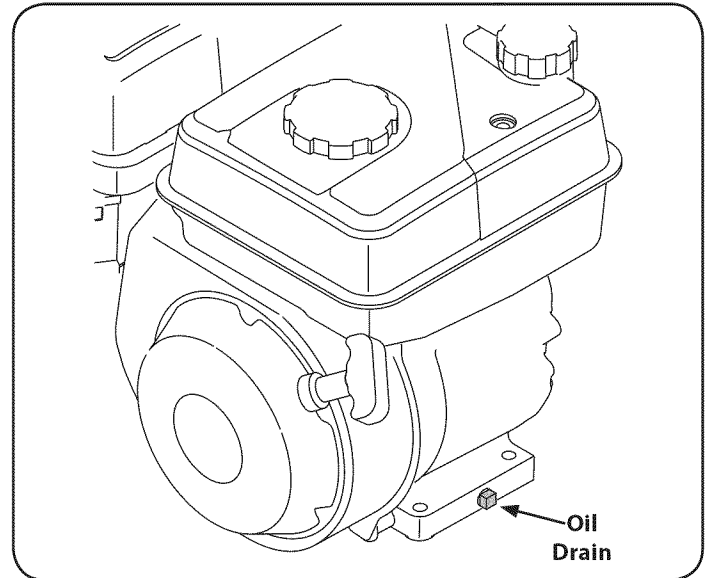

Figure 25
3. Place a funnel under the oil drain to avoid getting oil on the tiller frame. See Figure 25.
4. Remove oil drain end cap located at the base of the engine, and drain oil into an appropriate receptacle. See Figure 25.